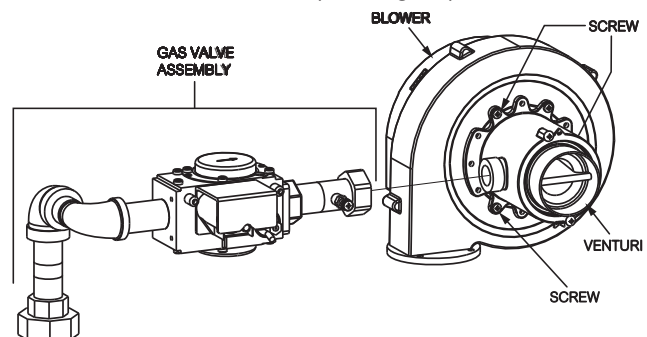

Fig. 51: Gas Train Assembly 198AR thru 398A
8. Remove the (3) screws holding the Natural Gas Venturi to the Blower (see Fig 51).